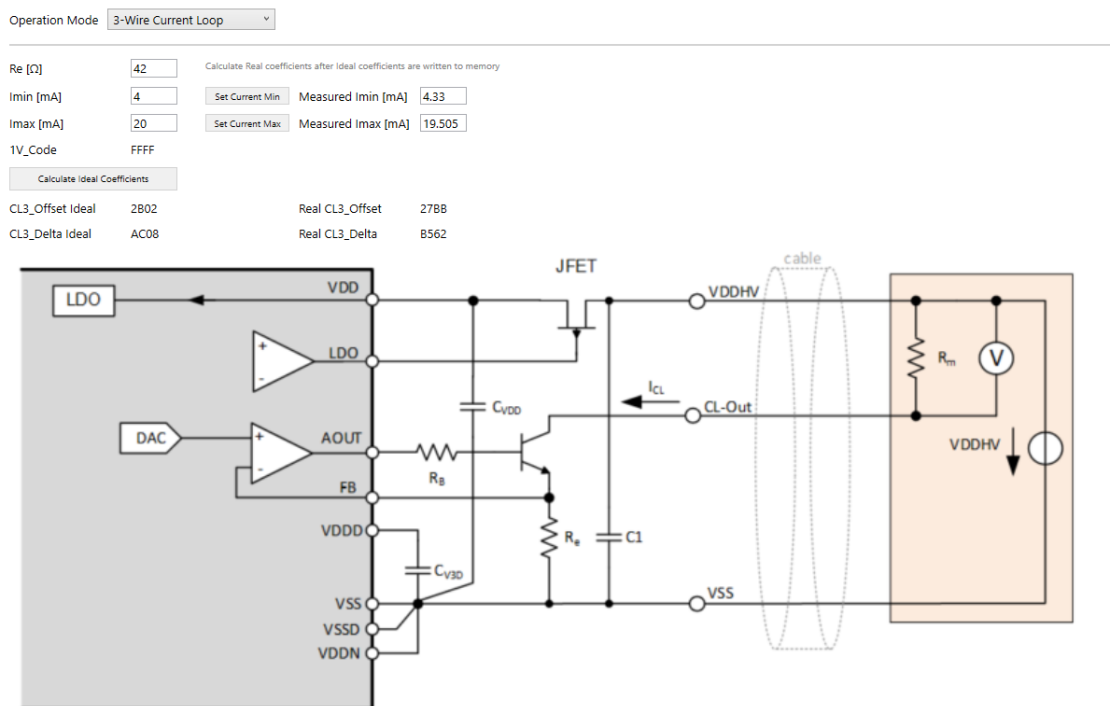

Figure 133. 3-Wire Current Loop calibration Measured Coefficients
- The interface appears as displayed in Figure 133 (values are for reference only).